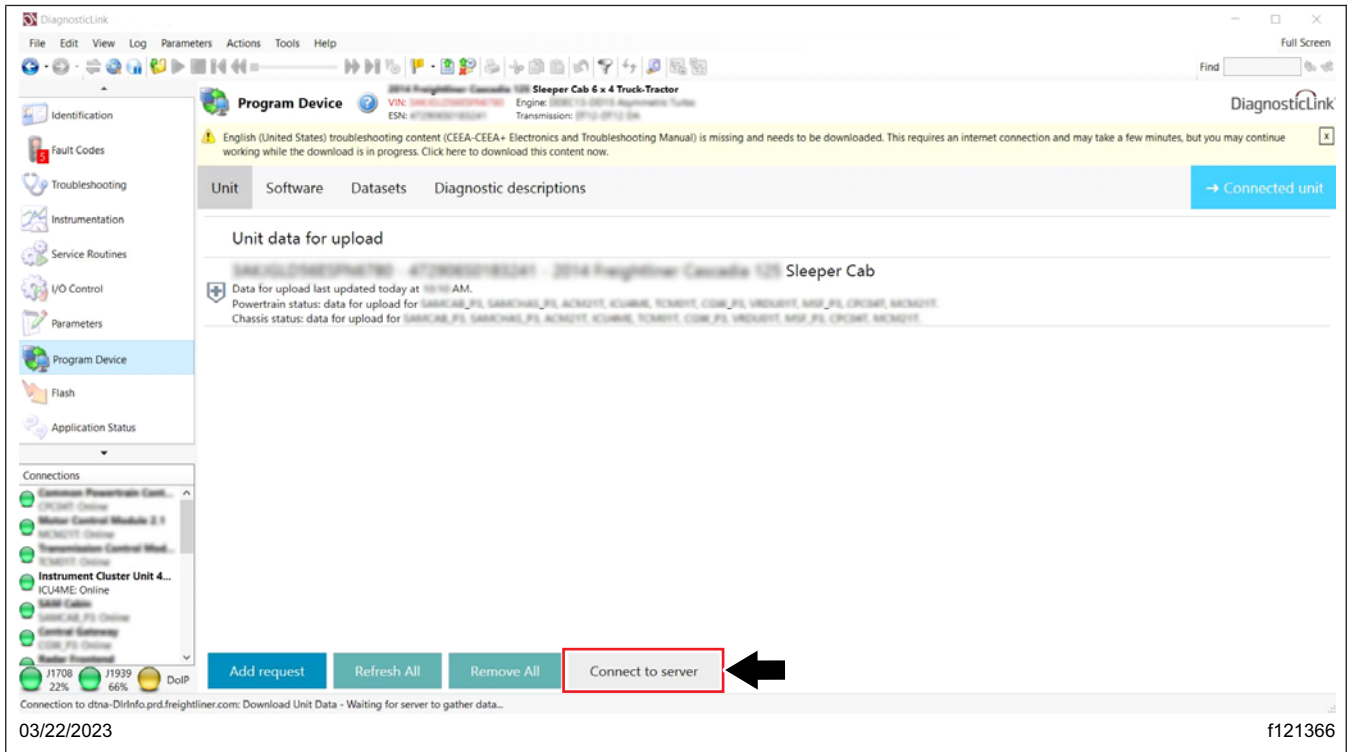

Fig. 4, Connecting to Server
- 4.3 Unit data should now be available for upload, as shown in Fig. 4. Select 'Connect to server' to upload the data to the server.